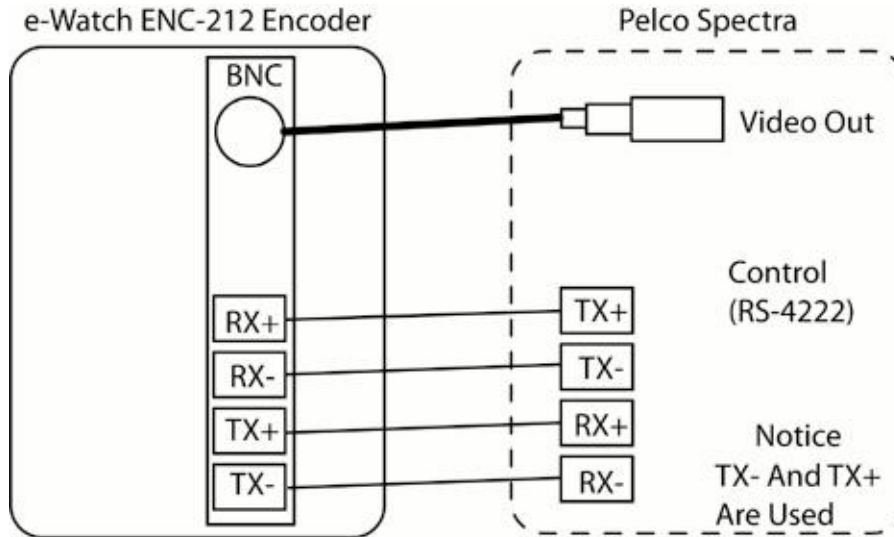

Figure 2-9 Wiring Diagram for Coax Transmission
1. Connect the four primary wires as follows (*Figure 2-9*).